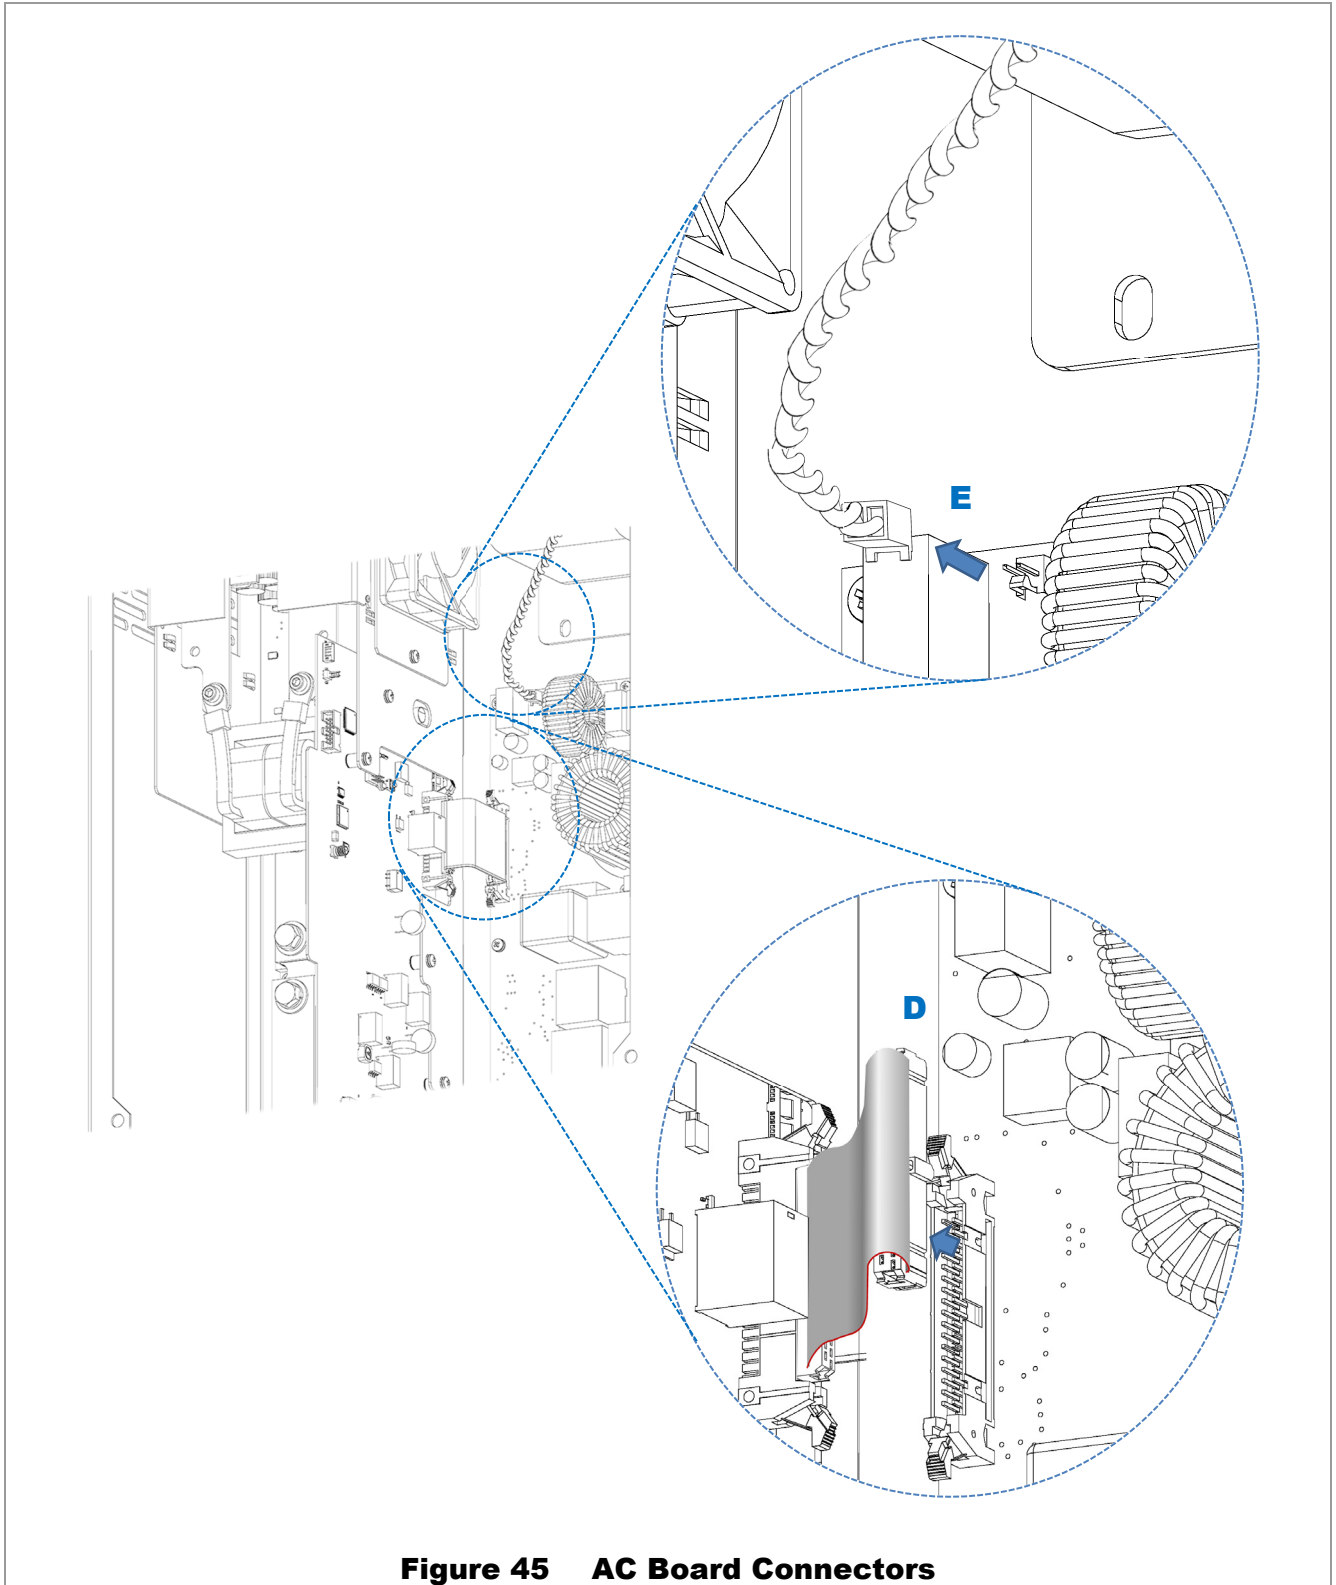

Figure 45 AC Board Connectors
3. On the AC board, remove the following connectors (see Figure 45):
- Replace the connectors **E** and **D**. See Figure 45 if necessary.